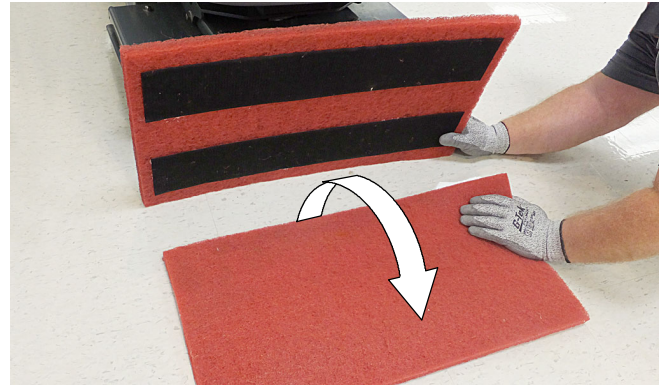

FIG. 108
- Orbital scrub head - Turn the working pad over or replace when worn (Figure 108).